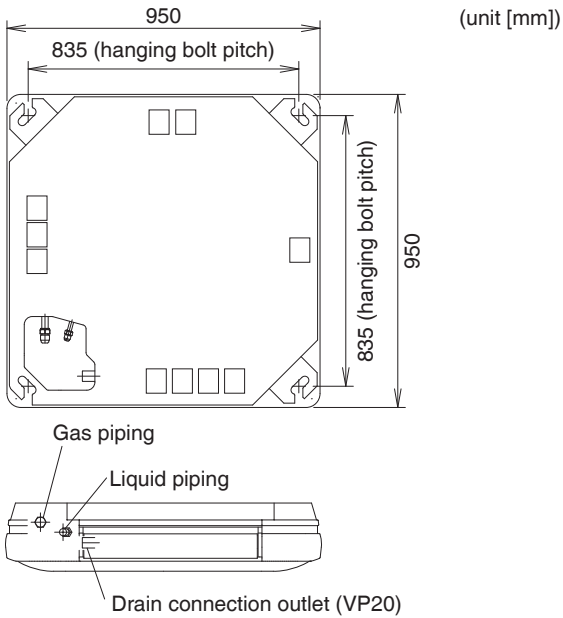
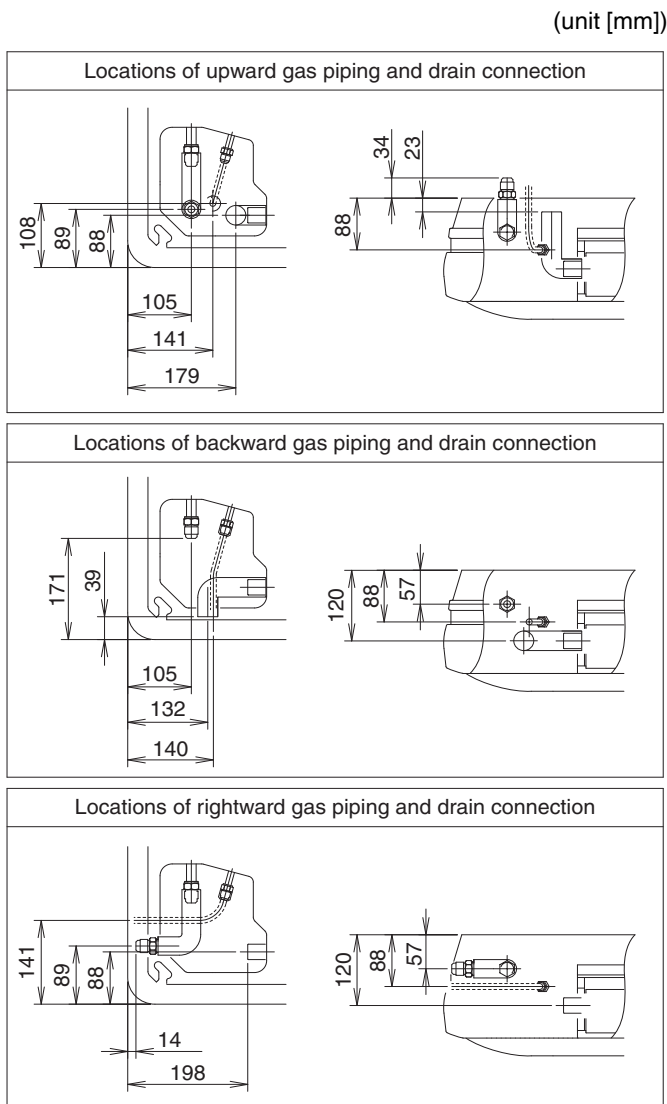

Fig. 5
Fig. 6
- (1) Check the locations of indoor unit hanging bolts, piping outlet holes, drain piping outlet hole and electric wirings inlet hole. (The drawing shows the view from the ceiling.) (Refer to Fig. 5 and Fig. 6)